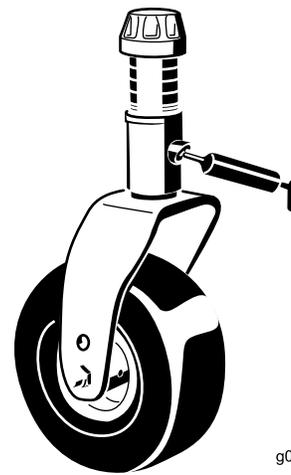

Figure 83
- 1 caster-fork-shaft bushing (Figure 83)